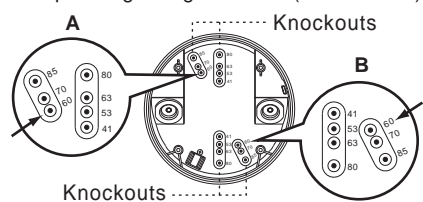

FIG.14
3.3.4.1 There are 7 pairs of knockouts with various distances from 41mm to 85mm on the bottom cover of the combined junction box which can be selected for different mounting applications (See FIG.14). To select two same figures on both ends for the corresponding fixing distance (See FIG.15).